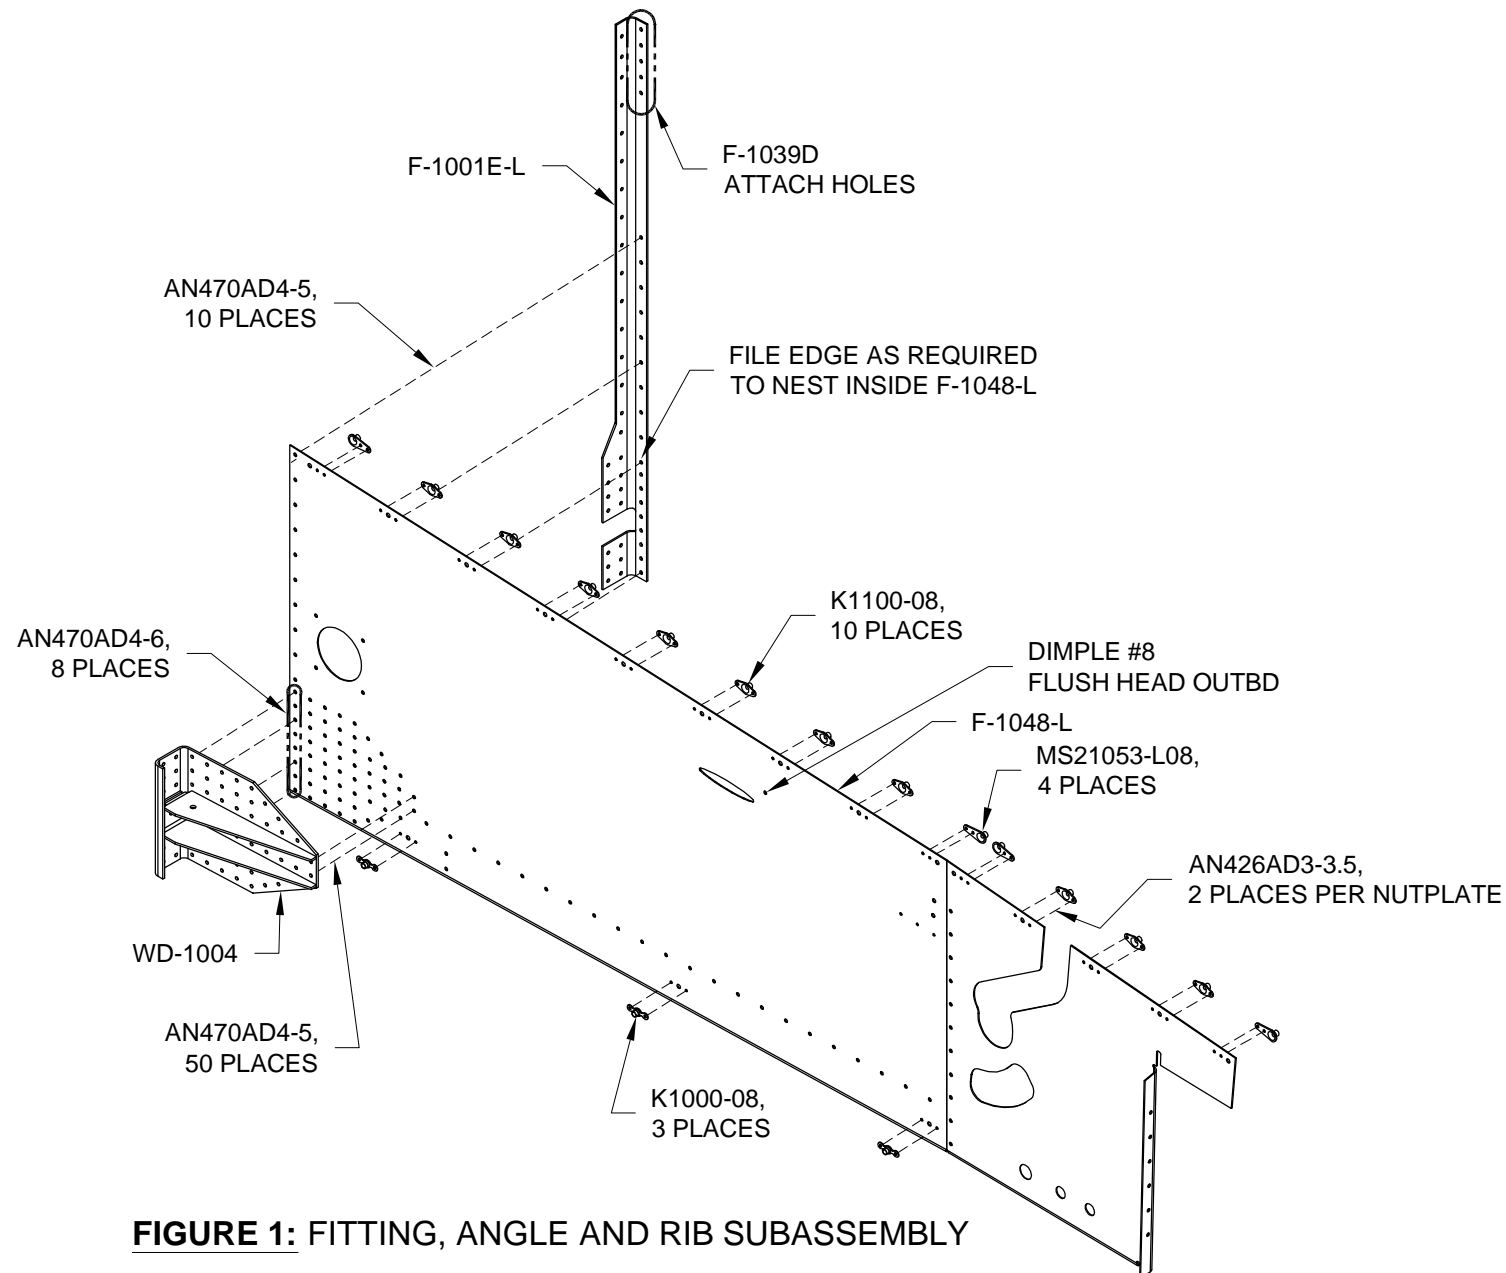

FIGURE 1: FITTING, ANGLE AND RIB SUBASSEMBLY
Step 6: Disassemble and deburr all parts assembled in Step 1 and Step 4. Dimple the nutplate attach holes in the F-1048-L and -R Fwd Fuselage Ribs and the holes that attach the F-1048C-1 Fuel Valve Bracket for the head of an AN426AD3 rivet. Final-Drill #19 then dimple (flush head outbd) the hole near the oval slot in the center of the fwd fuselage ribs (see Figure 1). Prime aluminum parts if/as desired.